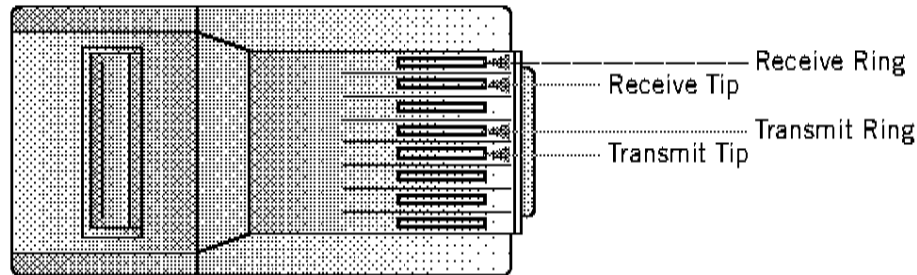

Figure 5. Loopback Plug
If these tips do not isolate the issue, test the JCT Media Board next to make sure it can send and receive a signal. To do this, a loopback plug is needed, which allows a single span to see the signal that it is sending. To create a loopback plug (see Figure 5):
If there is more than one span, it is possible to do a test using a loopback cable. To make a loopback cable, refer to Figure 5 and:
**Note:** Use the pins connections described in Figure 5 to determine the positions of the pins; in this case, connect pin 1 (Receive) to pin 4 (Transmit) and connect pin 2 (Receive) to pin 5 (Transmit) of the opposite connector.